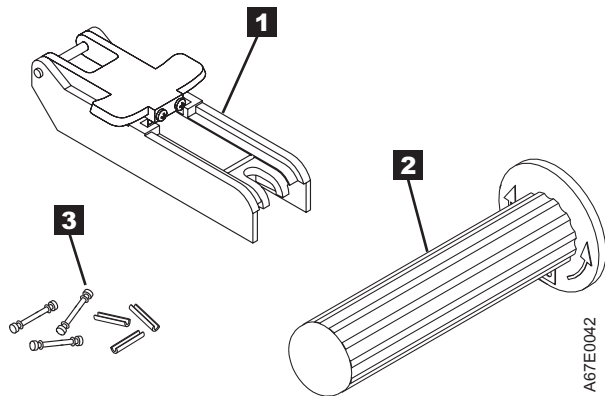

Figure 21. Leader pin reattachment kit
- **Leader pin attach tool** (See **1** in Figure 21 on page 50). A plastic brace that holds the cartridge door open.
- **Cartridge manual rewind tool** (See **2** in Figure 21 on page 50). A device that fits into the cartridge's hub and enables you to wind the tape into and out of the cartridge.
- **Pin supplies** (See **3** in Figure 21 on page 50). Leader pins and C-clips.